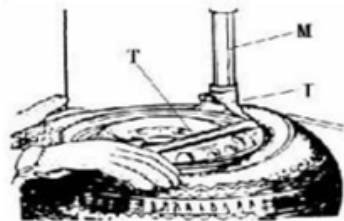

Fig 6
Insert the lift lever (T) between the tire bead and the front part of the mounting/demounting head (I), and move the tire over the mounting/demounting head as shown in Fig. 6.